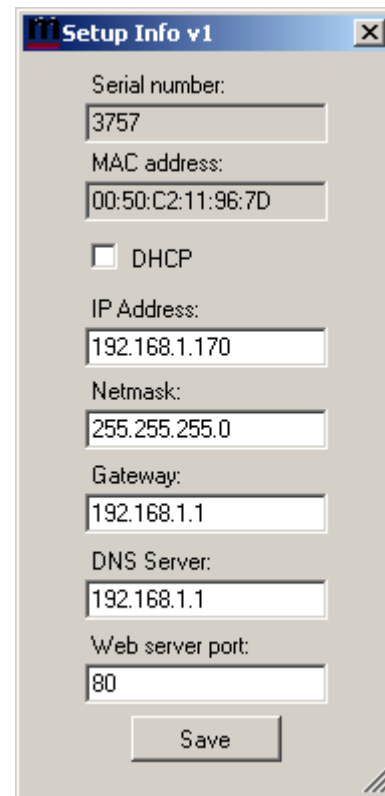

Figure 7
- Click on the Get button to open the Setup Info window (Figure 7), check and correct the following entries as needed: